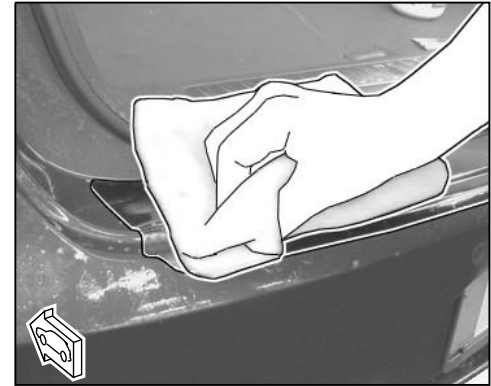

Figure 7
- 2.4 Carefully wipe remaining soap solution off the rear bumper (⇒ *Figure 7*).